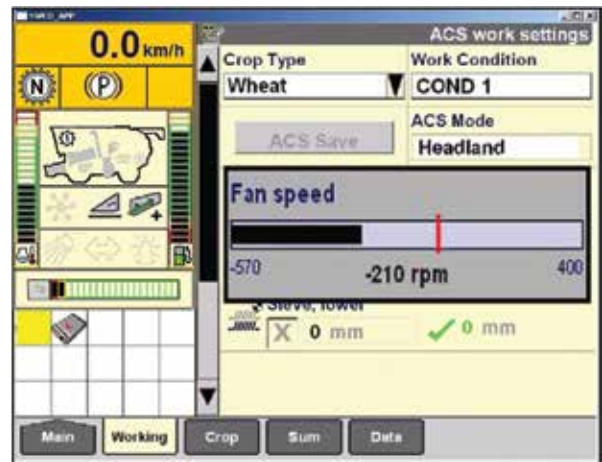

Figure 12.1
Adjustments are made using switches on the right hand console. As adjustments are made, pop-up windows are displayed to indicate current settings to the operator (see figure 12.1).
- When in Headland mode, values represent the difference between Harvest settings and the desired Headlands setting. (In figure 12.1, “-210” indicates a reduction off an speed of 210 rpm when in Headlands mode.)